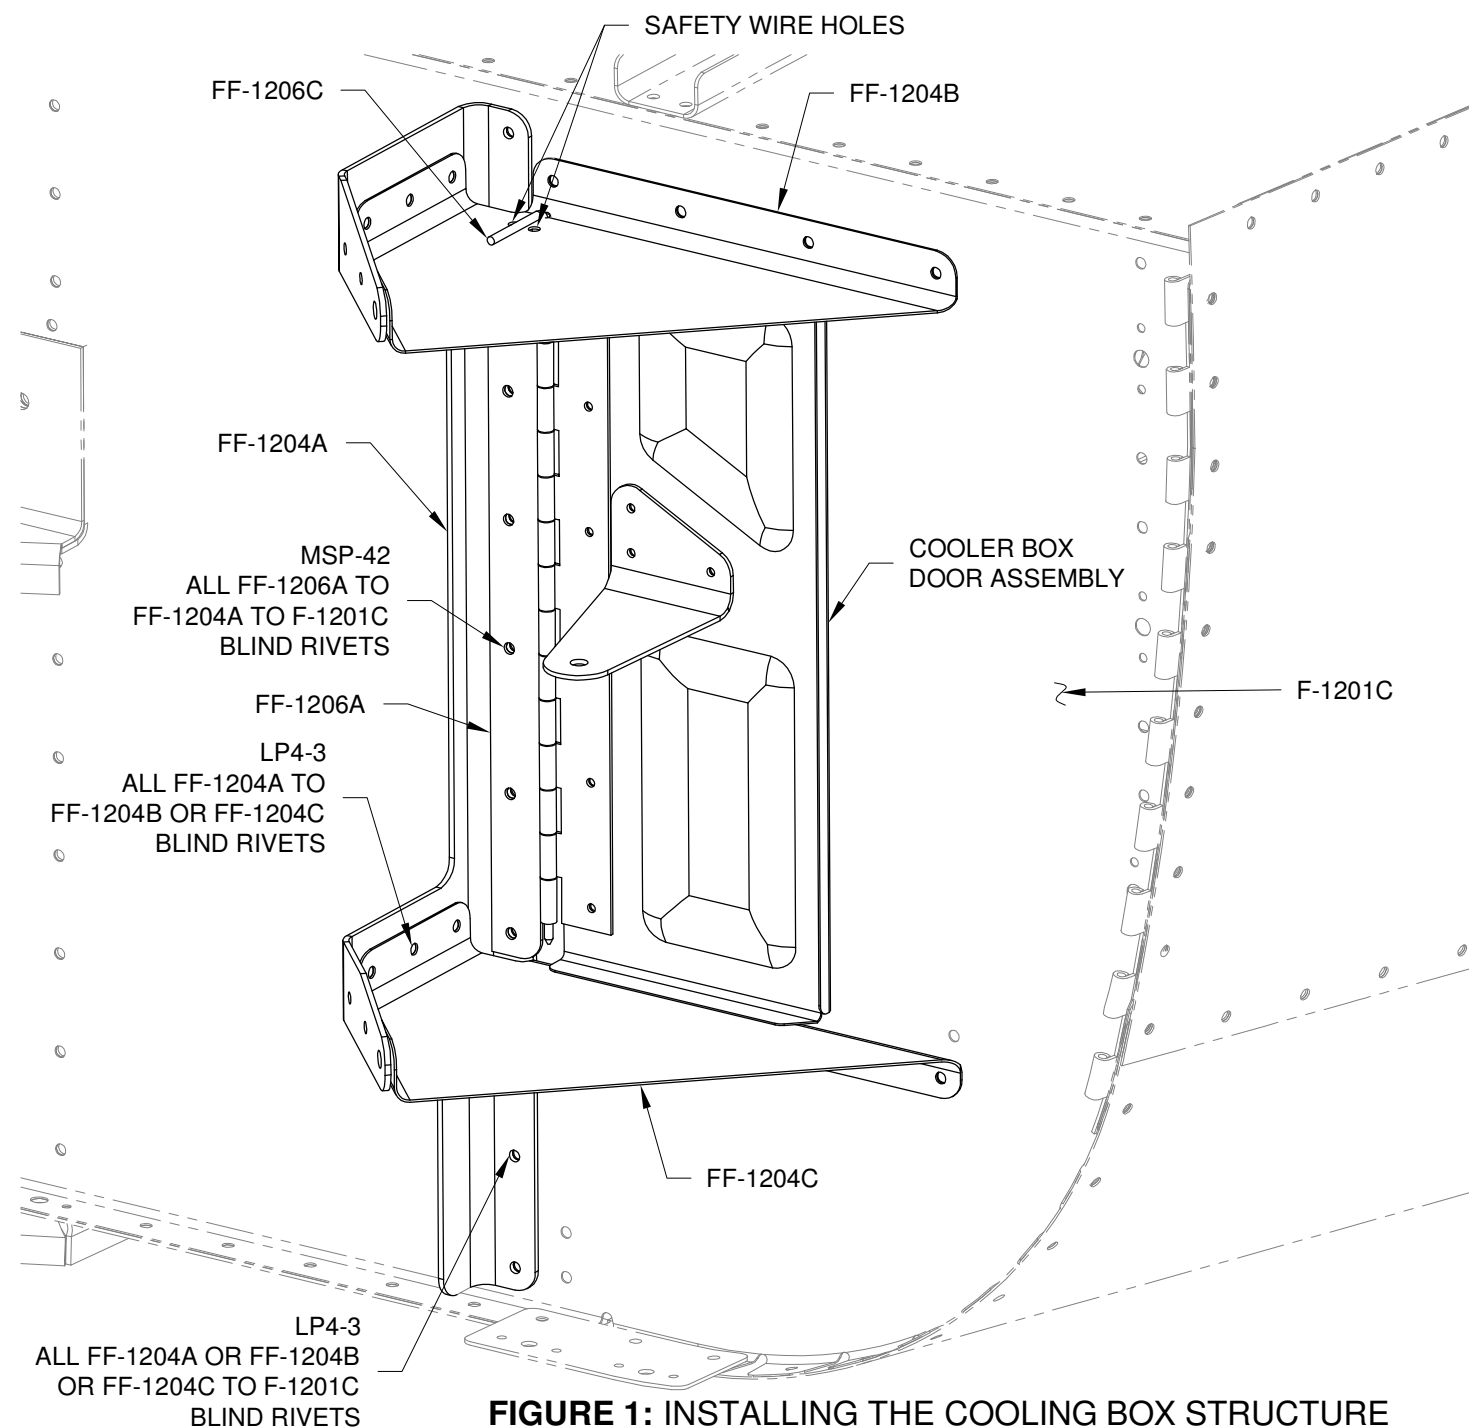

FIGURE 1: INSTALLING THE COOLING BOX STRUCTURE
Step 1: Rivet the FF-1204A Cooler Box Face and FF-1206A Cooler Box Hinge to the F-1201C Firewall Bottom using the call-outs in Figure 1. Rivet the remaining holes common between the cooler box face and the firewall bottom.
Step 2: Rivet the FF-1204B Upper Cooler Box Rib and FF-1204C Lower Cooler Box Rib to the F-1201C Firewall Bottom using the call-outs in Figure 1.
Step 3: Rivet the FF-1204A Cooler Box Face to the FF-1204B Upper Cooler Box Rib and FF-1204C Lower Cooler Box Rib using the call-outs in Figure 1.
Step 4: Use the FF-1206C Hinge Pin to attach the Cooler Box Door Assembly to the FF-1206A Cooler Box Hinge. Safety wire the hinge pin to the FF-1204B Upper Cooler Box Rib. Use the provided safety wire holes in the upper cooler box rib. See Figure 1.